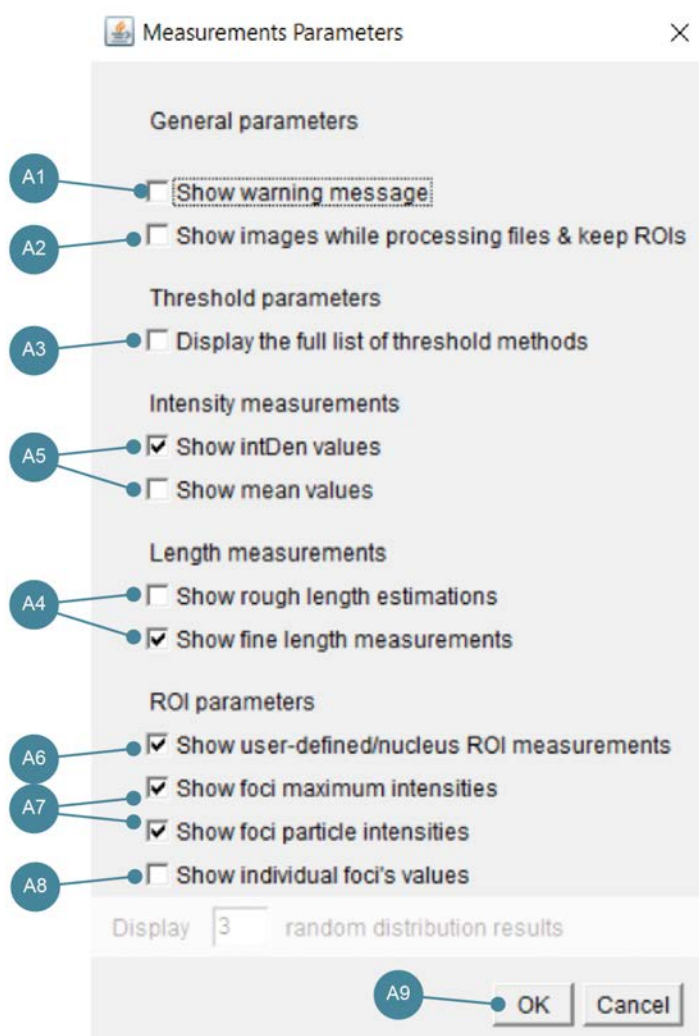

Figure 6.8. The (general) parameters window.
For the sake of clarity, the removal of these individual particles from the manager can be done using the "remove individual foci's ROI from RoiManager" general option (**OPTIONAL STEP A**, figure 6.8).
**OPTIONAL STEP A.** Configure the measurement parameters options. Prior to using the "Count axis and off-axis foci in one channel" tool, click on the "Set measurements parameters" button (see figure 0), which will open the Parameters menu (refer to figure 6.8).